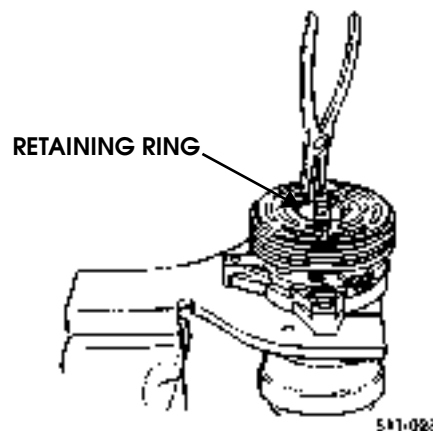

Figure 11-42: Shaft Seal Retainer Ring
2. Using snapping pliers, remove the shaft seal retaining ring (Figure 11-42).